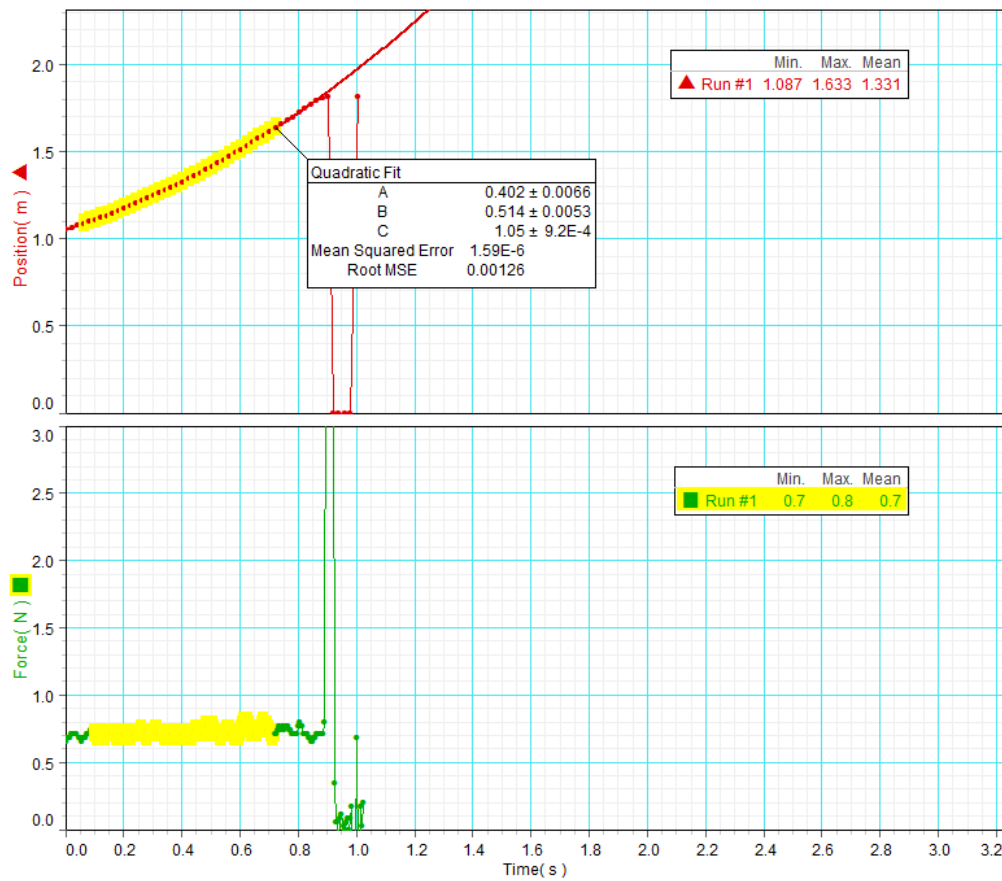

Figure 8
8. Your graphs will look like Figure 8. Choose the data of interest in the position versus time graph by drawing a rectangle with left mouse button. Right click in the graph area and choose **Fit** and then select **quadratic Fit**. Find the acceleration of the body from the fit parameter A . Recall $A = a/2$. **Make sure that the fitted curve exactly coincides with the data that corresponds to the glider's motion away from the motion sensor.** Choose the corresponding data in the force versus time graph again by drawing a rectangle with left mouse button, right click in the graph